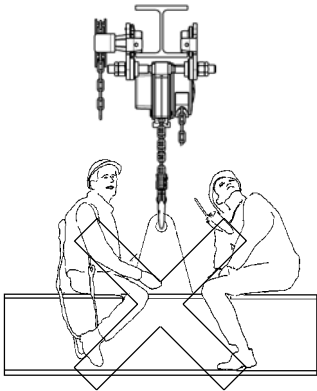

Fig. 1
- Do not use the trolley hoist for transportation of people (Fig. 1).